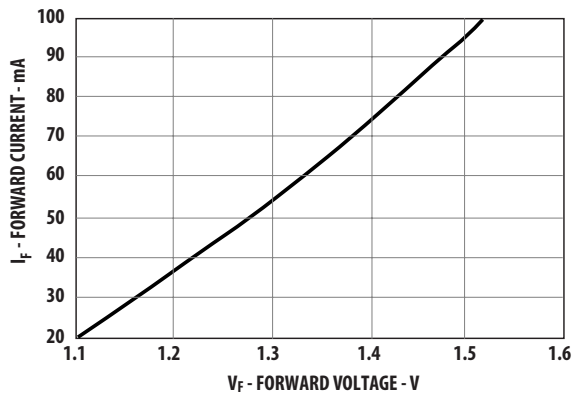

Figure 3. Typical forward voltage and current characteristics
6. Optical rise and fall times are measured from 10% to 90% with 62.5/125 μm fiber. LED response time with recommended test circuit (Figure 3) at 25 MHz, 50% duty cycle.